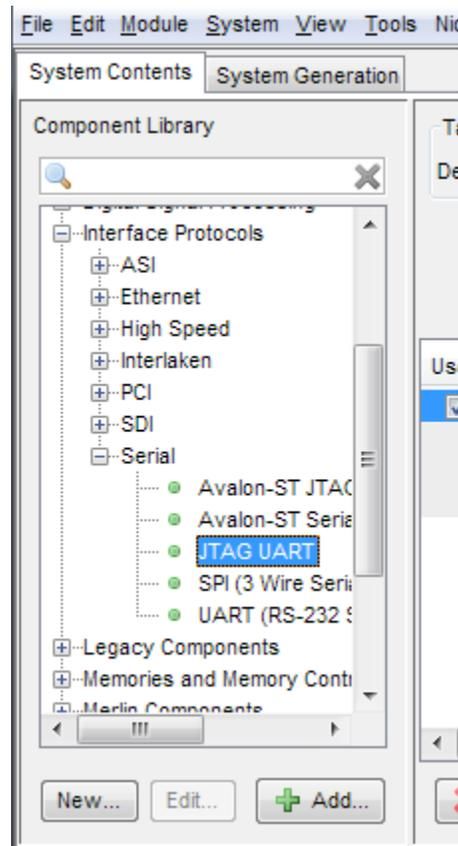
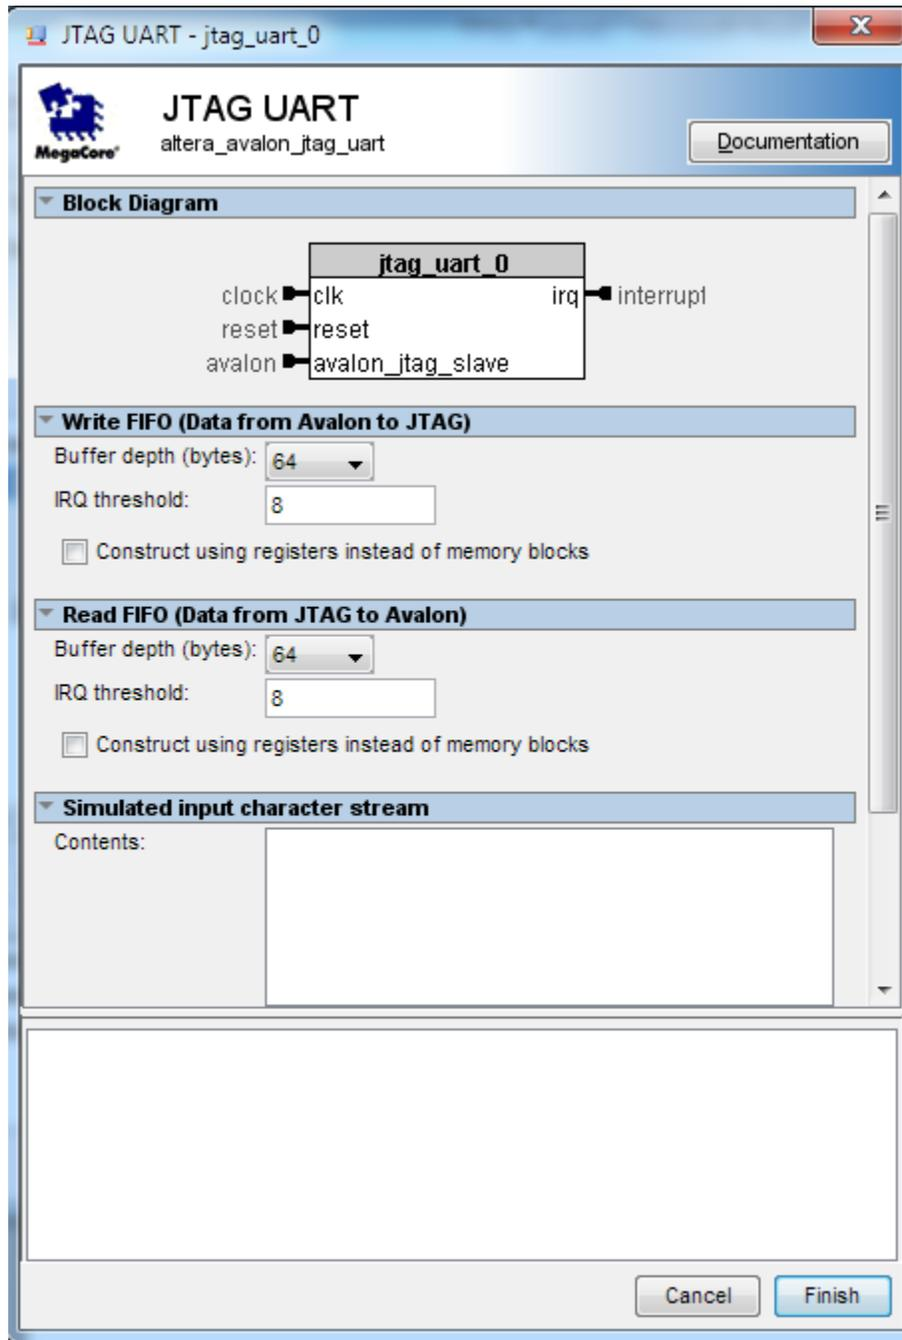

Figure 1-19 Add JTAG UART (1)
Figure 1-20 JTAG UART
11. Choose **Library > Interface Protocols > Serial > JTAG UART** to open wizard of adding JTAG UART. See Figure 1-19 and Figure 1-20.